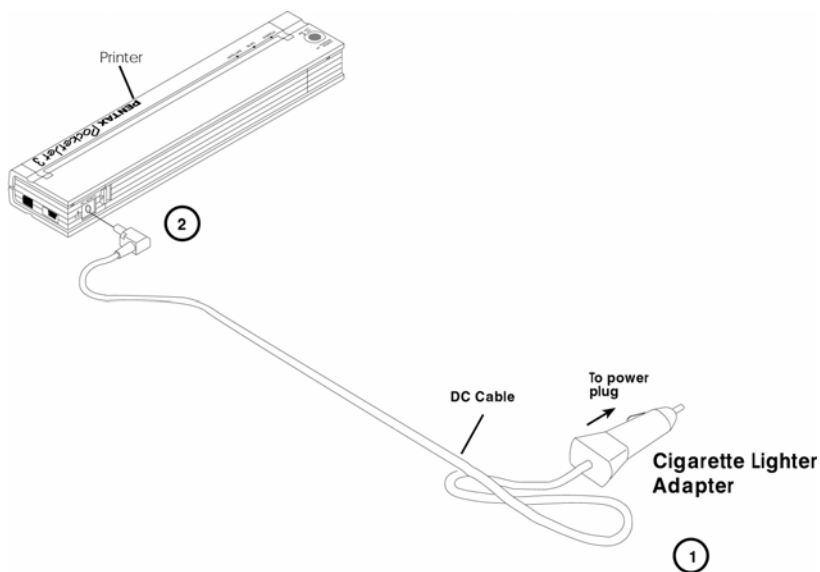

FIGURE 3. Connecting the printer to DC power
1. Connect an appropriate power adapter cord (either with a cigarette plug or direct wired) to the vehicle 12VDC supply as shown in Figure 3. (These items are available as options - See Ordering Information, Chapter 8.)